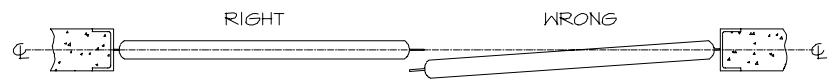

FIG. 8
- b. Center panel in opening (Figure 8).
- b. If panel does not close in line repeat Step 5 until it does (Figure 8).